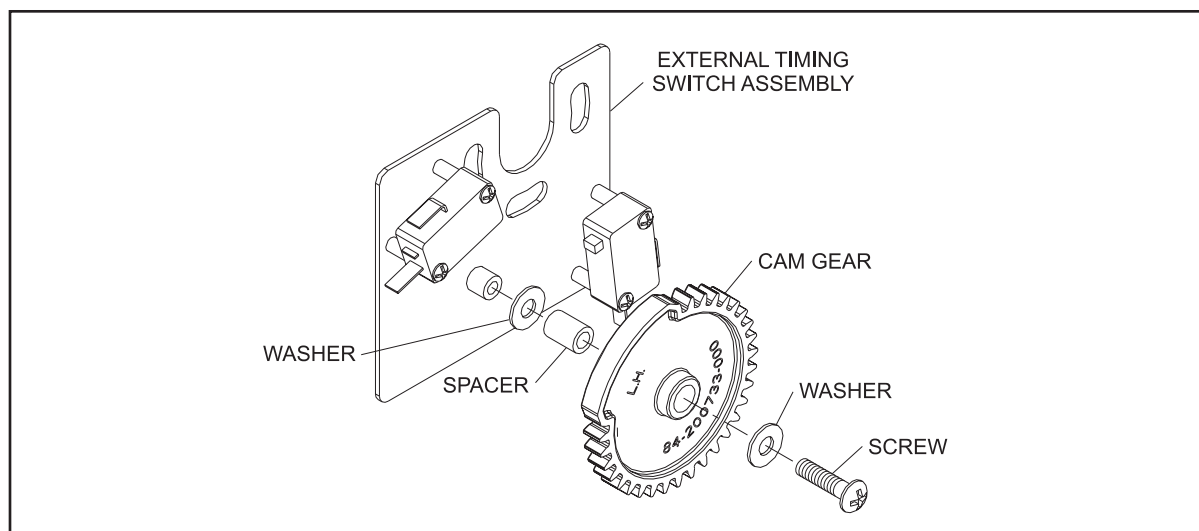

Figure 27. Timing Switch Assembly
4. Position the  $1/16''$  (1.5mm) alignment hole in the cam gear with the “Down Switch” plunger. Refer to *figure 27*.